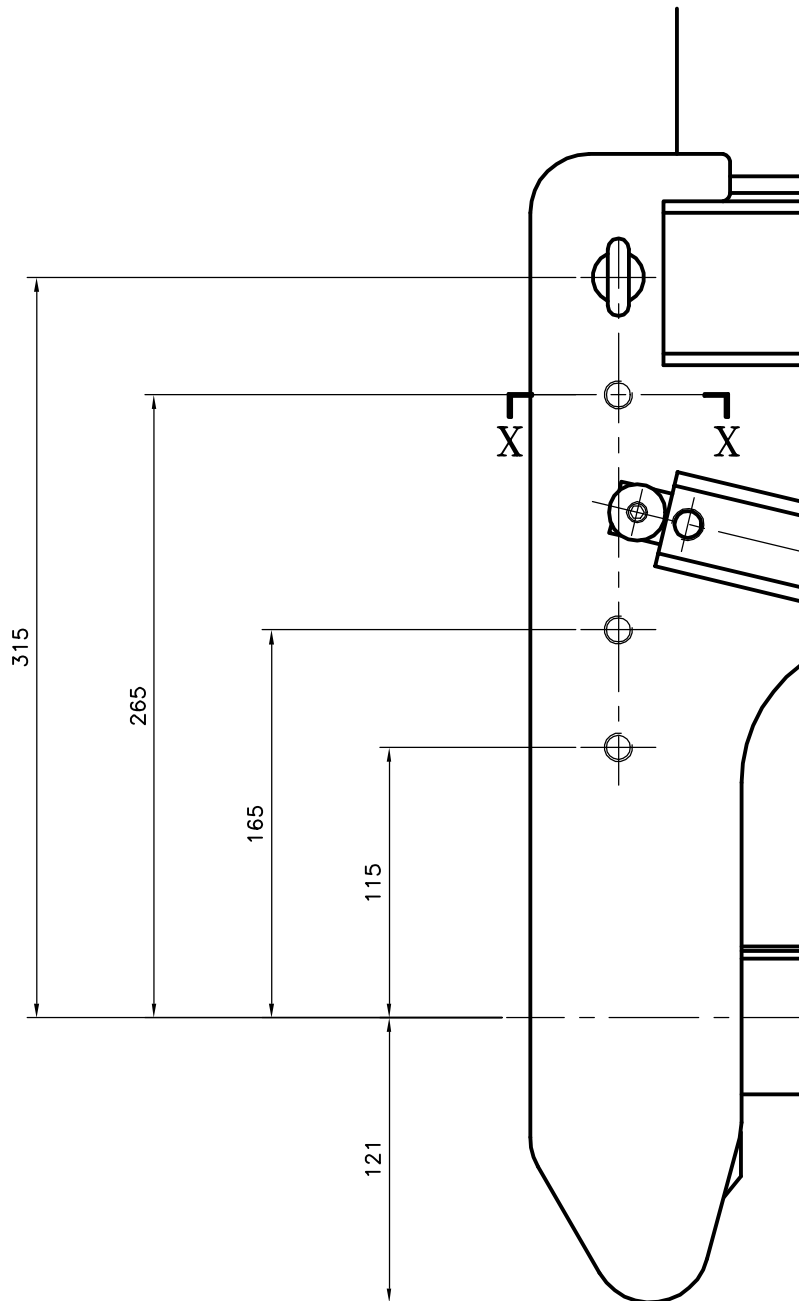

FIGURE 1
**1.1** Eight tapped holes are provided in the tool body, see Fig. 1, which can be used for any attachment necessary to mount the cutter.